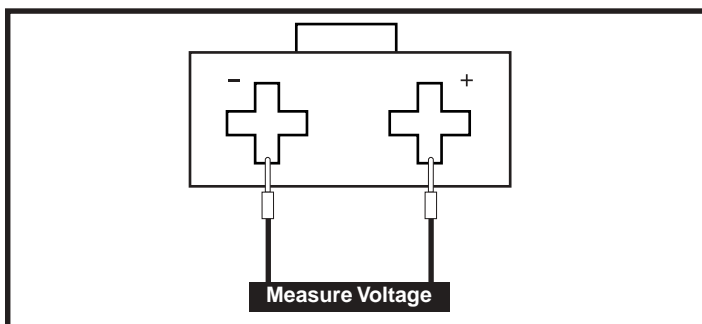

Figure 22. Connector 5a
12. Measure voltage across pin 1 and pin 2 on connector 5a. **See figure 22.**